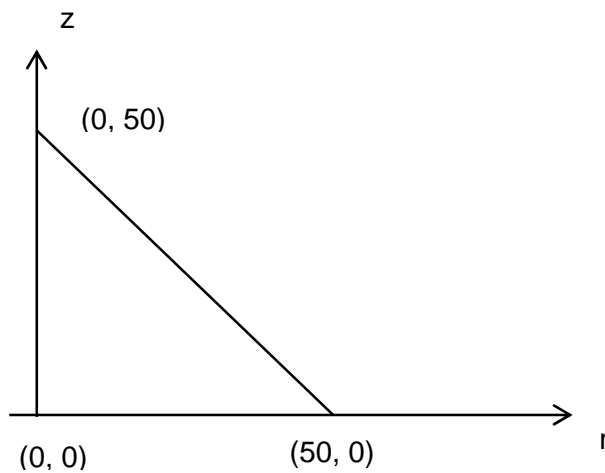

Figure 3
6. For axisymmetric element shown in Figure 3, determine the stiffness matrix. Let  $E = 2.1 \times 10^5 \text{ N/mm}^2$  and  $\nu = 0.3$ . The co-ordinates shown in figure are in millimeters.